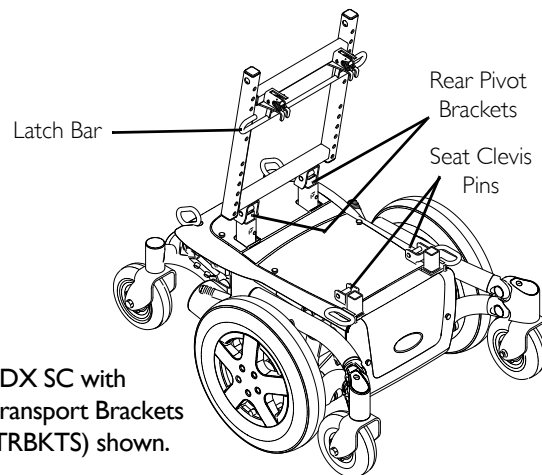

FIGURE 15 Removing/Installing the Seat Assembly - Wheelchairs with Latch Bars Only
For this procedure, refer to FIGURE 15.
1. Position the seat in the rear pivot brackets as shown in FIGURE 15.